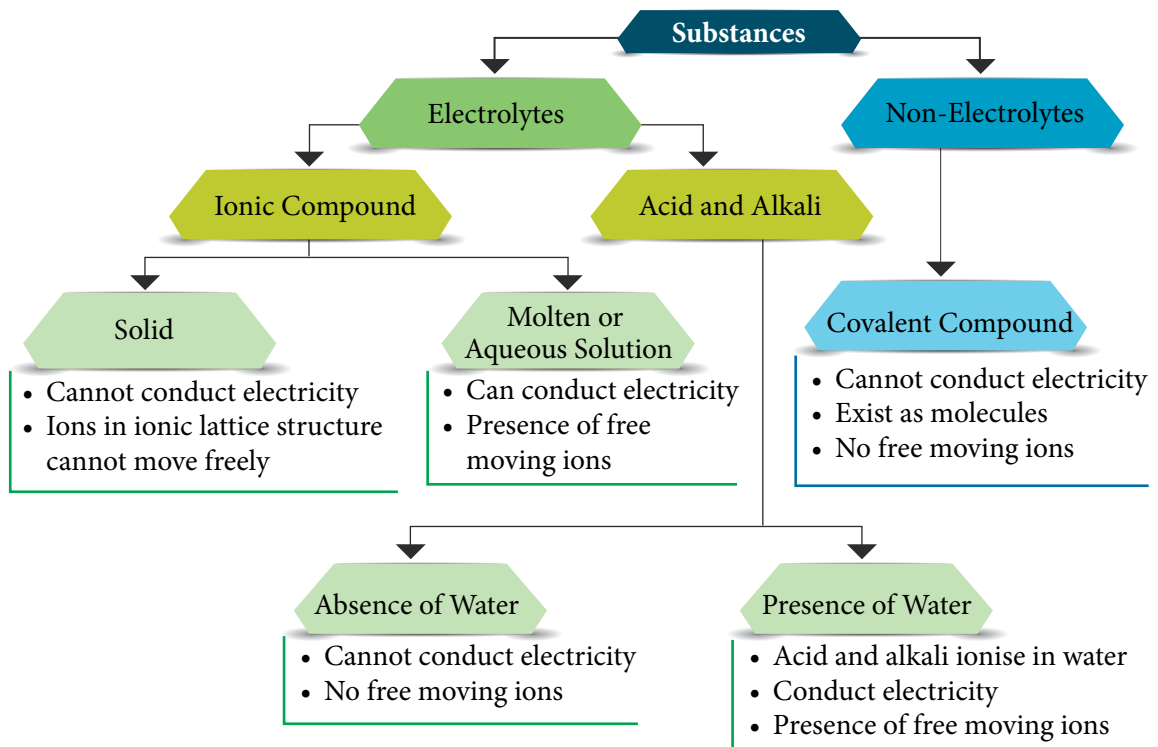

Figure 1.20 The relationship between electrical conductivity and presence of free moving ions
- Figure 1.20 shows a tree map classification of substances into electrolytes and non-electrolytes.